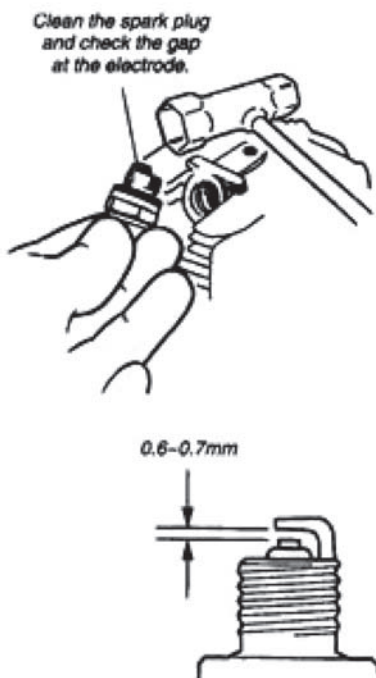

Figure 35
**Every 10 to 15 hours of operation:** Remove and clean the spark plug. See Figure 35. Adjust the spark plug electrode gap to 0.6–0.7mm. Replace the spark plug as necessary.